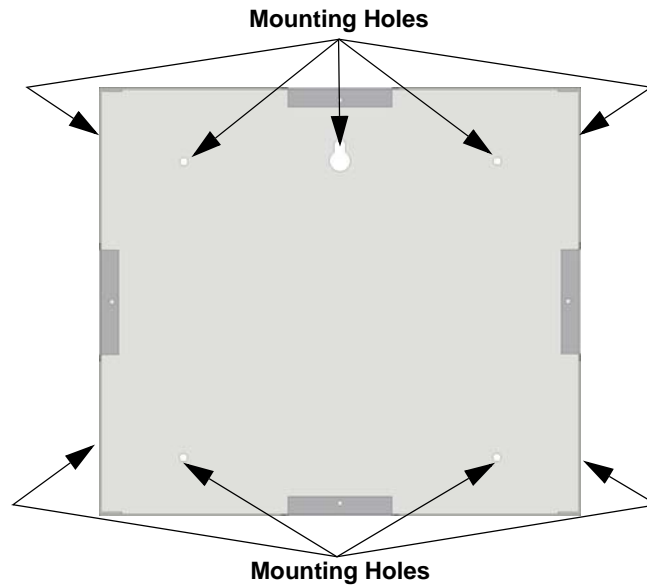

Figure 4.22 Back Box Mounting Holes
1. The back box dimensions are 9¼" W x 8 3/8" H. The minimum depth required is 2". The back box can be mounted prior to the complete installation of the 6860 using any of the mounting holes shown in Figure 4.22.